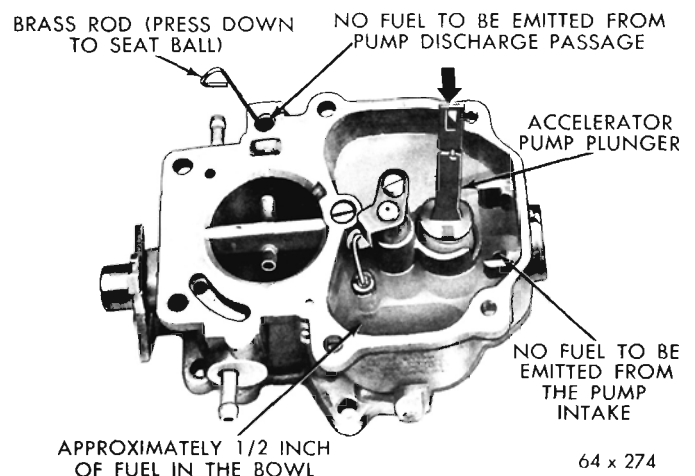

Fig. 10—Testing Accelerator Pump Intake and Discharge Check Balls
(2) Pour clean gasoline into the carburetor bowl, approximately 1/2 inch deep. Remove the pump plunger from the jar of gasoline and slide down into the pump cylinder. Raise the plunger and press lightly on the plunger shaft to expel air from the pump passage.
(3) Using a small clean brass rod, hold the discharge check ball down firmly on its seat. Again raise the plunger and press downward. No fuel should be emitted from either the intake or discharge passage, as shown in (Fig. 10).